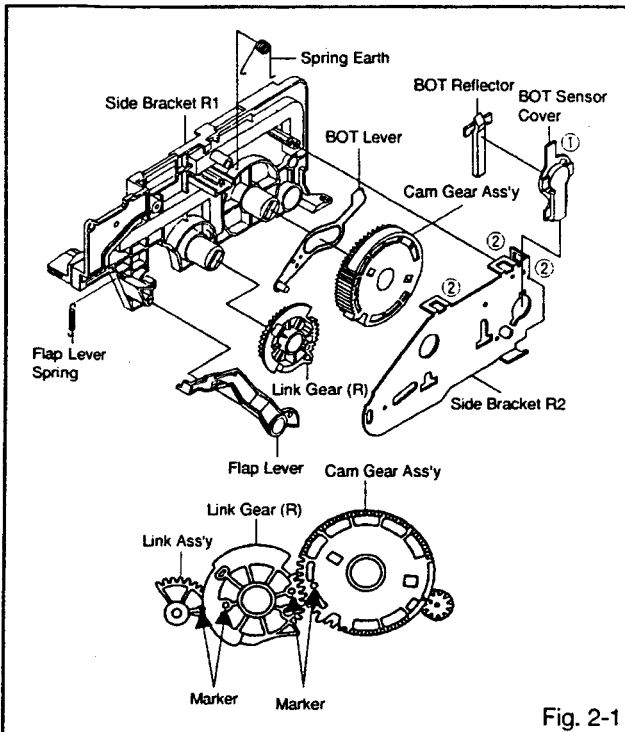

Fig. 2-1
2-1: LINK GEAR (R) / CLUTCH GEAR (Refer to Fig. 2-1)
1. Unlock support ①.
3. Unlock the 3 supports ②.
6. Remove the Flap Lever, Link Gear (R) , Cam Gear Ass'y and BOT Lever.